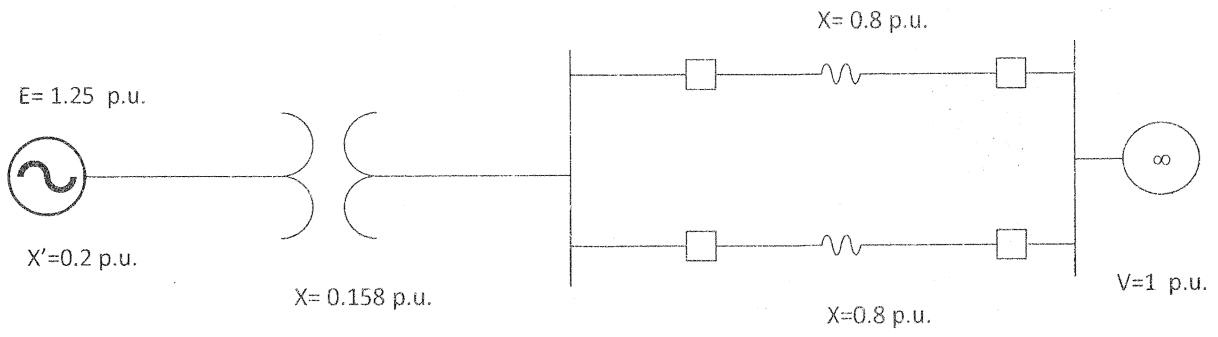

Figure Q3
- b) A 50 MVA, 60 Hz synchronous generator has a transient reactance of 0.2 per unit and an inertia constant of 5.66 MJ/MVA. The generator is delivering 50 MW to an infinite bus through a transformer and a double circuit transmission line as shown in Figure Q3. The resistance values of the system are neglected and the reactance values are expressed on a common MVA base. A three phase fault occurs at the middle of one transmission line. The fault is cleared in 0.2 seconds. Obtain the swing curve over a period of 0.15 seconds.